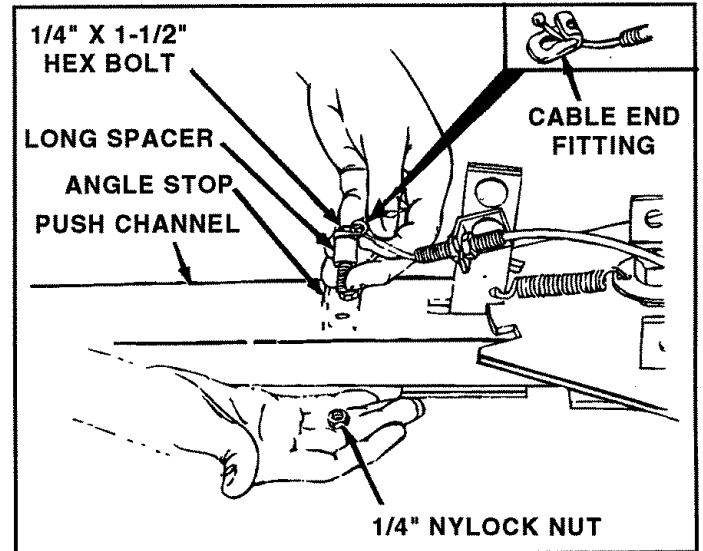

FIGURE 8
- Attach cable end fitting and long spacer to right hand hole in angle stop and channel using 1/4" x 1-1/2" hex bolt and 1/4" Nylock nut. **Tighten both 1/4" Nylock nuts that secure the angle stop to the channel. See figure 8. NOTE: Keep cable and fitting in alignment with cable mount bracket when tightening nuts.**